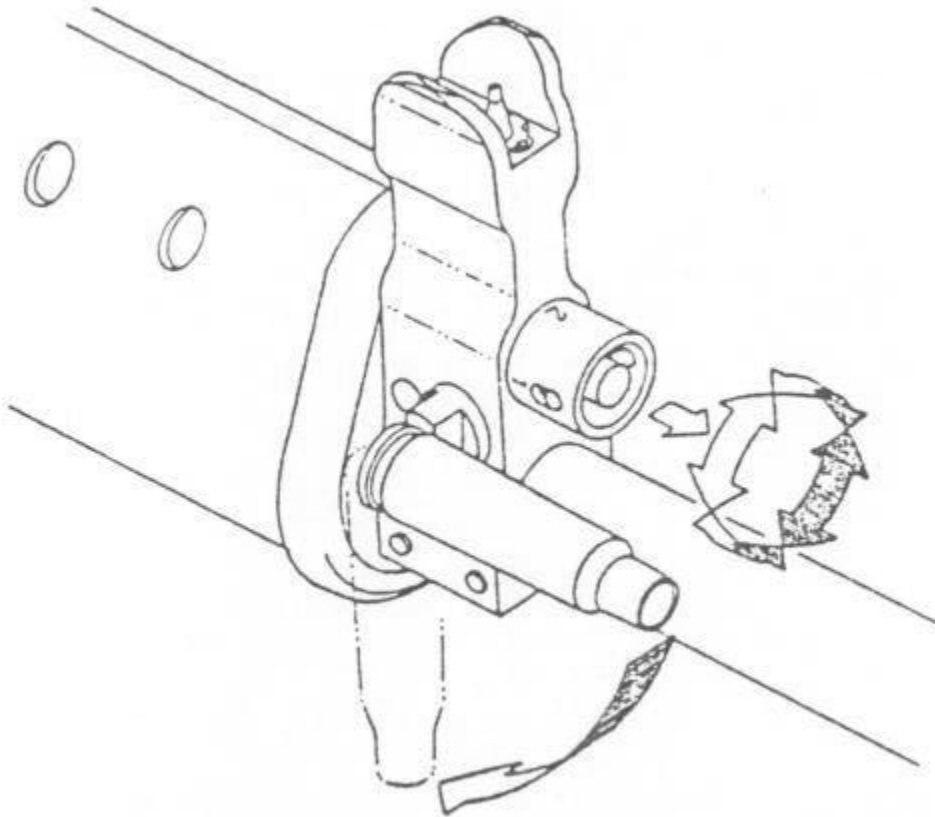

FIGURE 7
1. The gas cut-off is provided to enable the shooter to prevent or allow gas to be bled from the barrel into the gas tube-gas piston assembly, at the shooter's discretion. The base into the slot of the gas cut-off and rotating the gas cutoff ninety degrees (90.) or one-quarter (1/4) turn. If the slot is parallel to the bore of the rifle, the gas flow is interrupted. In this position, the rifle will not function as a semi-automatic or automatic rifle, depending on the model. The shooter must manually cycle the charging handle after each shot to eject the fired case, cock the hammer, and chamber a new round. With the gas cut-off slot perpendicular to the line of the bore of the rifle, the gas channel is open and the rifle will function semi-automatically and automatically, depending on the model. (See Figure 7).
4. To change the adjustment of the gas regulator, pull the springloaded gas regulator ring towards the muzzle of the rifle to disengage the positive detent. The gas regulator ring may now be rotated to any desired setting. Upon releasing the gas regulator ring, it will return to its positive detent position under spring pressure. (See Figure 7) .